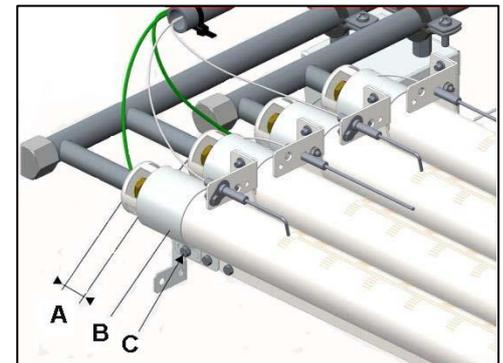

Fig. 5.10
- Loosen the screwed joint (**C**) in order to then adjust the shutter (**B**) by sliding it until it is at the correct position for the new gas, in accordance with measurement (**A**) in the attached table. (Fig. 5.10).